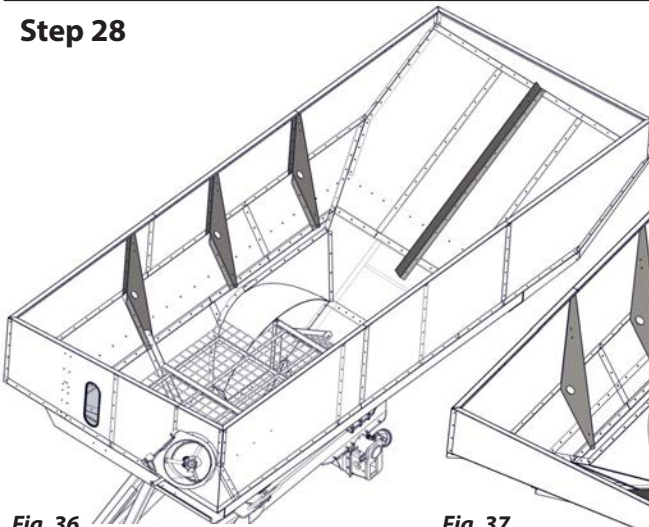
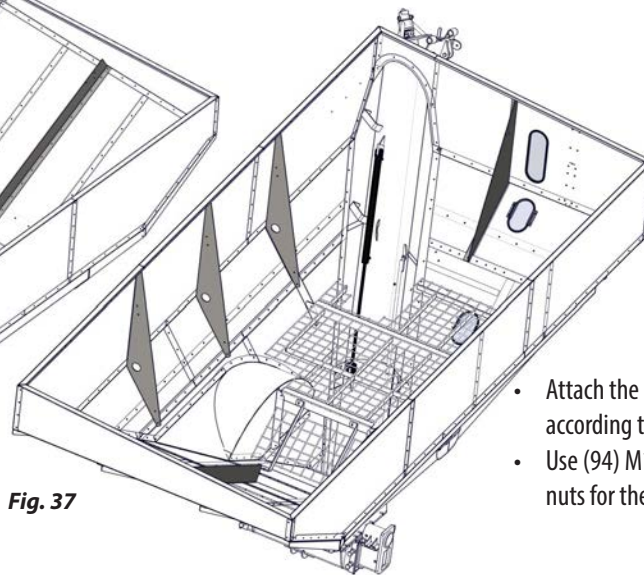

Fig. 36
Fig. 37
- Attach the 7 triangle braces and 1 slope brace according to the images in Fig 36 & Fig 37.
- Use (94) M10 x 25 hex bolts and (94) M10 hex nuts for the braces and slope.